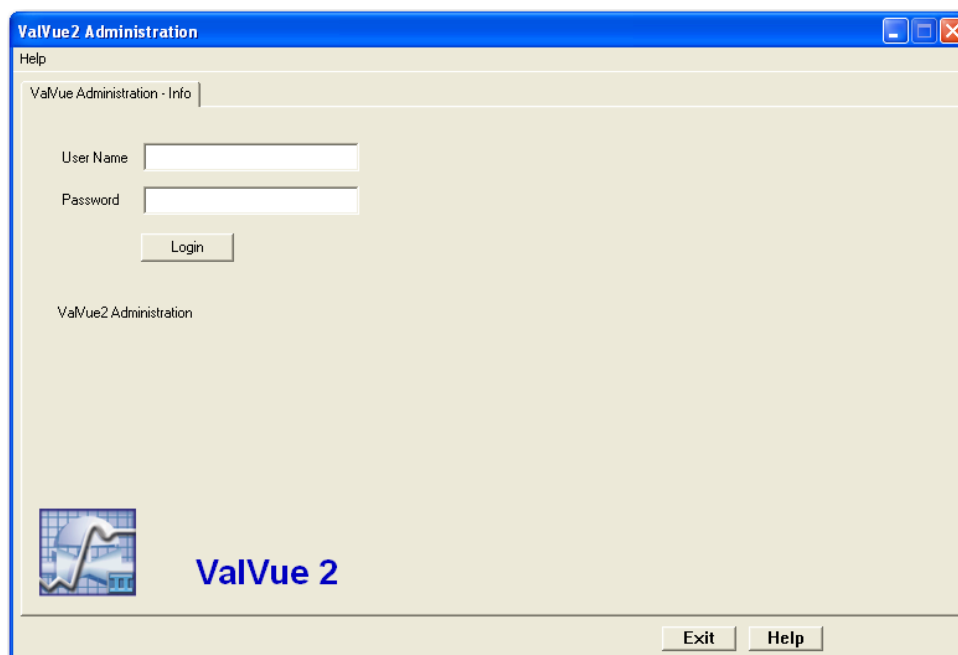

Figure 7 ValVue Administration Login
2. Select **ValVue** and click **OK** and Figure 7 appears.